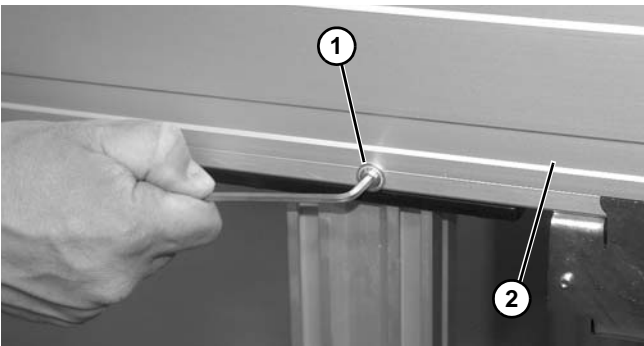

Figure 161
1. Remove screws (**Figure 161, item 1**) holding side cover (**Figure 161, item 2**) onto conveyor frame.